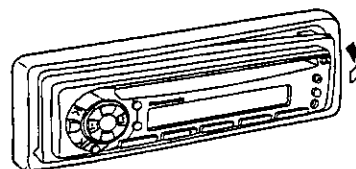

Fig. 5
- ② Press the right end of the removable face plate until "click" is heard. (⇒ Fig. 5)